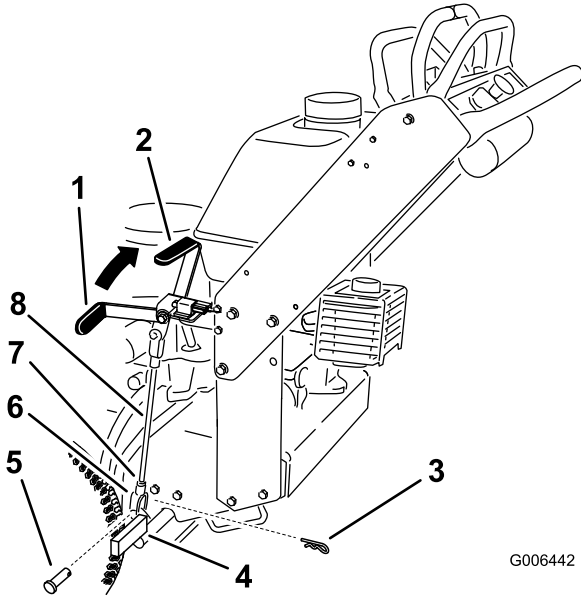

Figure 38
Note: When the brake is engaged, the brake handle should be in the 1 o'clock position (Figure 38).
5. Loosen the top and bottom jam nuts (Figure 38).
6. To adjust the brake, remove the hair pin cotter and clevis pin from the lower brake lever (Figure 38).
7. Rotate the brake rod in the yokes. To tighten the brake, lengthen the rod between the yokes. To loosen the brake, shorten the rod between the yokes (Figure 38).
8. Secure the yoke to lower brake lever with the hair pin cotter and clevis pin (Figure 38).
9. Tighten the top and bottom jam nuts (Figure 38).